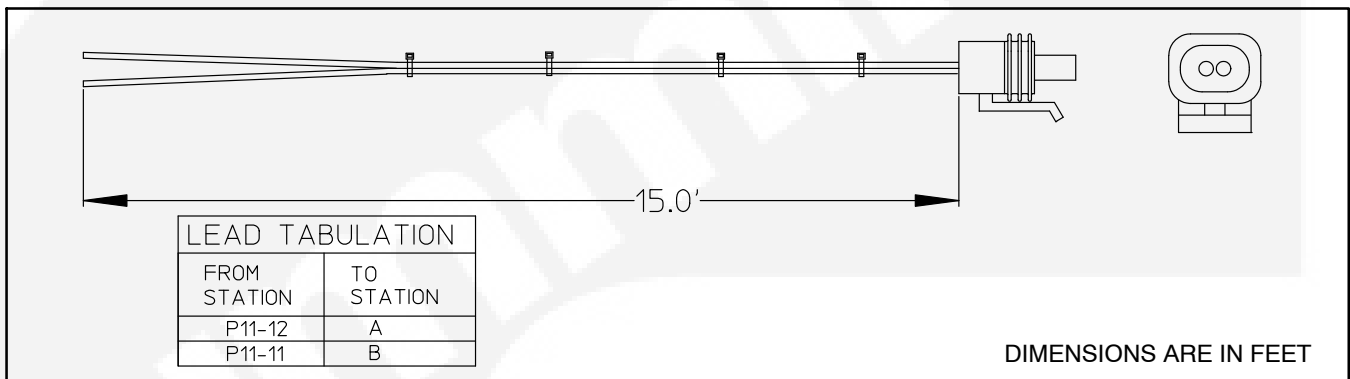

FIGURE 3-21. COOLANT TEMPERATURE SENSOR HARNESS
- b. Connect the engine harness wires marked P11-11 and P11-12 to the coolant temperature sensor harness wires marked P11-11 and P11-12 (see Figure 3-21).